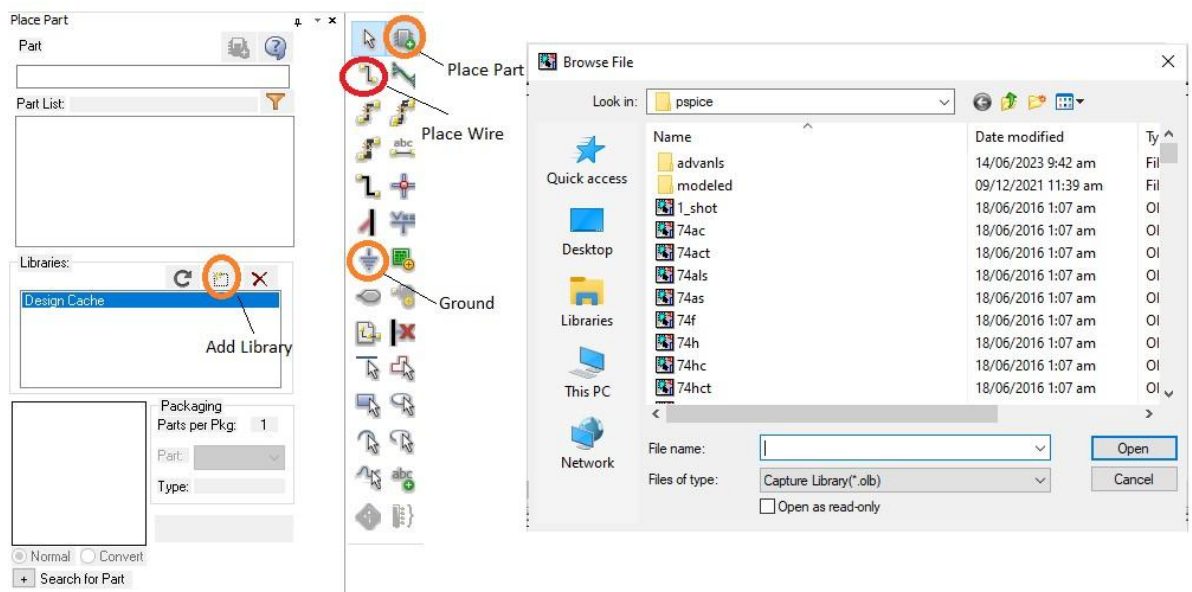

Figure 1.5: Place Part
7. Now that all parts are placed, we can use the wire tool to connect the them. Select the “Place Wire” item from the “Place” menu (or click on the second item on the left side of the vertical tool-bar) to activate the wire tool, refer Figure 1.5. The cursor turns into a cross-hair.
8. Every PSpice circuit needs a ground connection. To add a ground, use the menu (Place → ground) or click on the “ground” item in the vertical tool-bar or press key G, refer Figure 1.5. A dialog opens. Choose the 0/CAPSYM. Place the ground in the desired place in the drawing and then use the wire tool to connect it into the circuit.